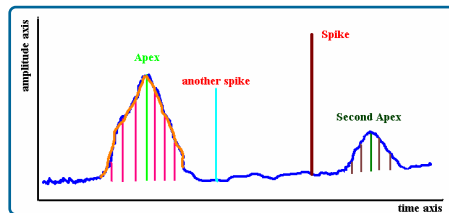

Fig 1. Chromatogram with 2 peaks and spikes
Step 1: The input to the algorithm are the x/y data points in the chromatogram (see Fig. 1, illustrated chromatogram with 2 peaks and 2 spikes).